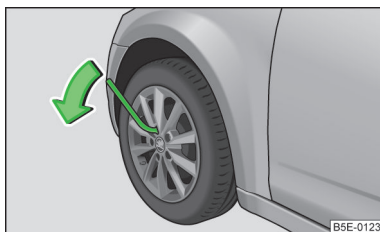

Fig. 198
- Grasp the end of the wrench and turn the bolt about **one** turn in the direction of the arrow » Fig. 198.
- Grasp the end of the wrench and turn the bolt against the direction of the arrow » Fig. 198, until it is tight.